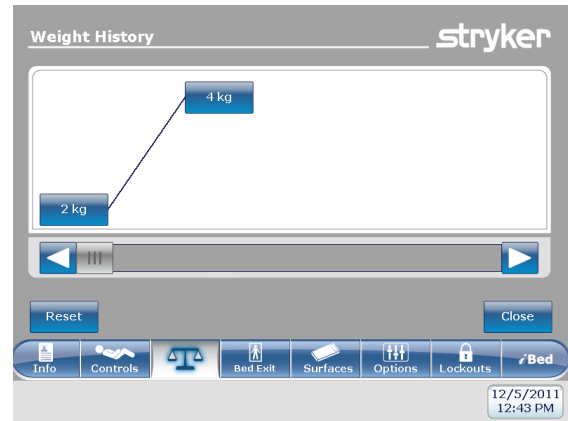
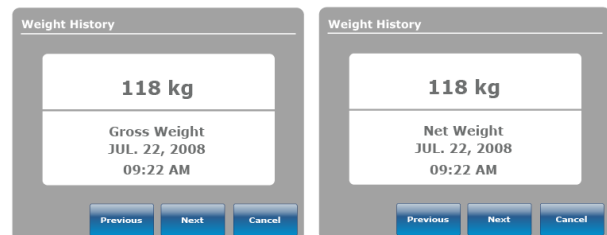

Figure 27: Weight history
Figure 28: Weight history information
To reset the stored weight histories, tap **Reset** (Figure 27 on page 43).
To change the displayed measuring unit, tap **lbs/kg** (Figure 27 on page 43).
To store the current weight reading, tap **Store** (Figure 27 on page 43).
To return to the **Scale** screen, tap **Close** (Figure 27 on page 43).
1. Tap a weight value in the weight history screen (Figure 27 on page 43). When tapped, each value displays the time and date of the measurement (Figure 28 on page 43).
2. Tap **Previous** to see the previous weight measured (Figure 28 on page 43).
3. Tap **Next** to see the next weight measured (Figure 28 on page 43).
4. To return to the **Weight History** screen, tap **Cancel** (Figure 28 on page 43).